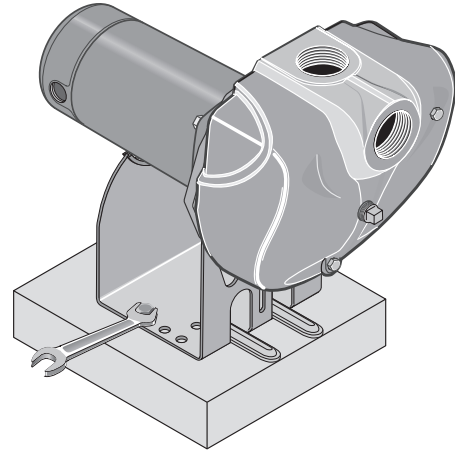

Figure 4: Bolt Pump Down
2. Bolt pump to solid, level foundation as shown in Figure 4.